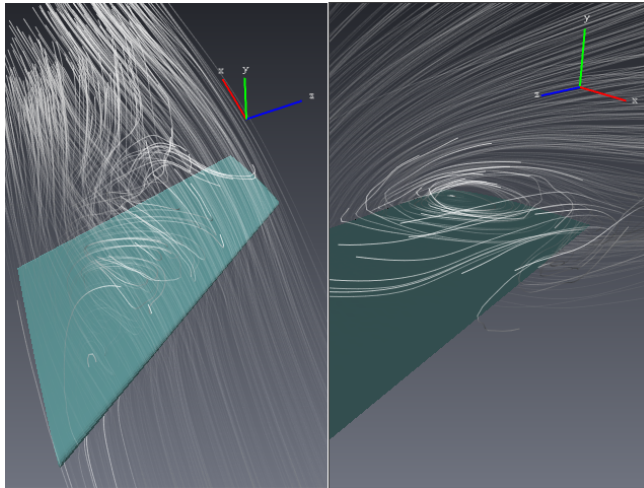

Figure 11.85: Illuminated Streamlines of the velocity vector field.
- Rotate and zoom in and out to get two different views, something like Figure 11.85.